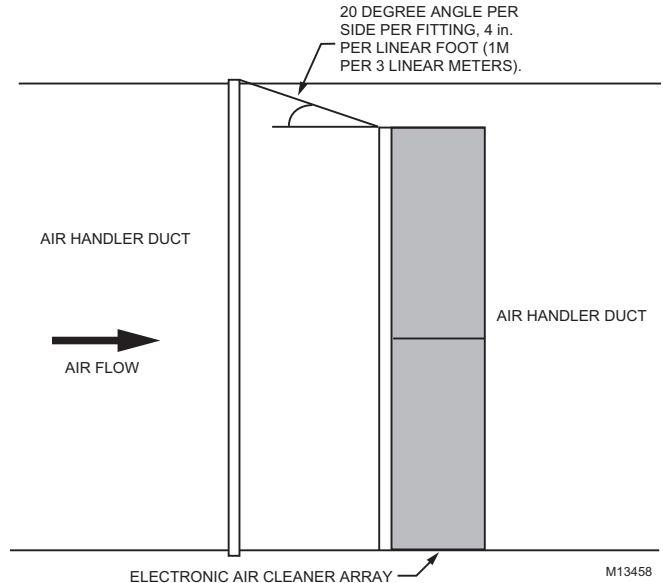

Fig. 6. Changing duct size gradually to minimize turbulence.
Use transitions when the duct is a different size than the air cleaner array in the duct. Gradual transitions reduce air turbulence and increase efficiency. See Fig. 6. Limit the duct change to no more than 20 degrees or four inches per linear foot (one meter per three linear meters).
- ❑ Install a transition to the air handler duct if the opening is different than the opening of the air cleaner array (see Fig. 6).